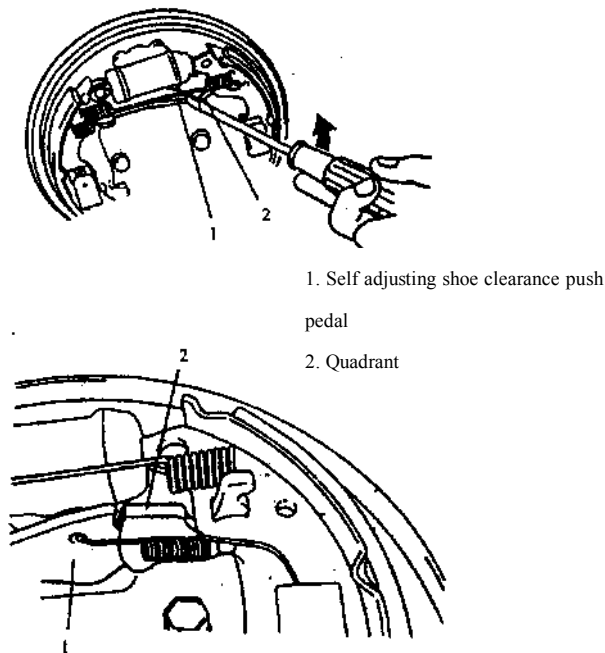

Fig.3.4-5
- 12) In order to maximize the clearance between parking brake shoe and parking brake drum, put the screw into the self adjusting meshing position of brake clearance and push the gear segment according to the method indicated below before installing the brake drum (Fig.3.4-5).